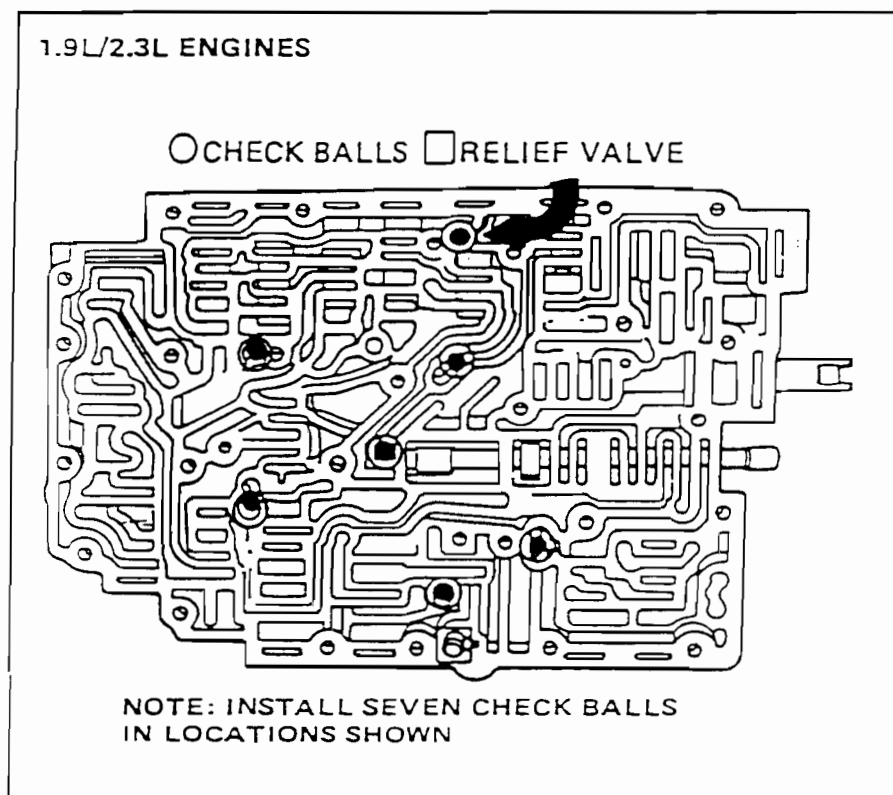

Figure 1
ACTION: When servicing the ATX transaxle main control make sure that all seven (7) check balls are installed. Refer to Figure 1 for the correct location of the main control check balls.